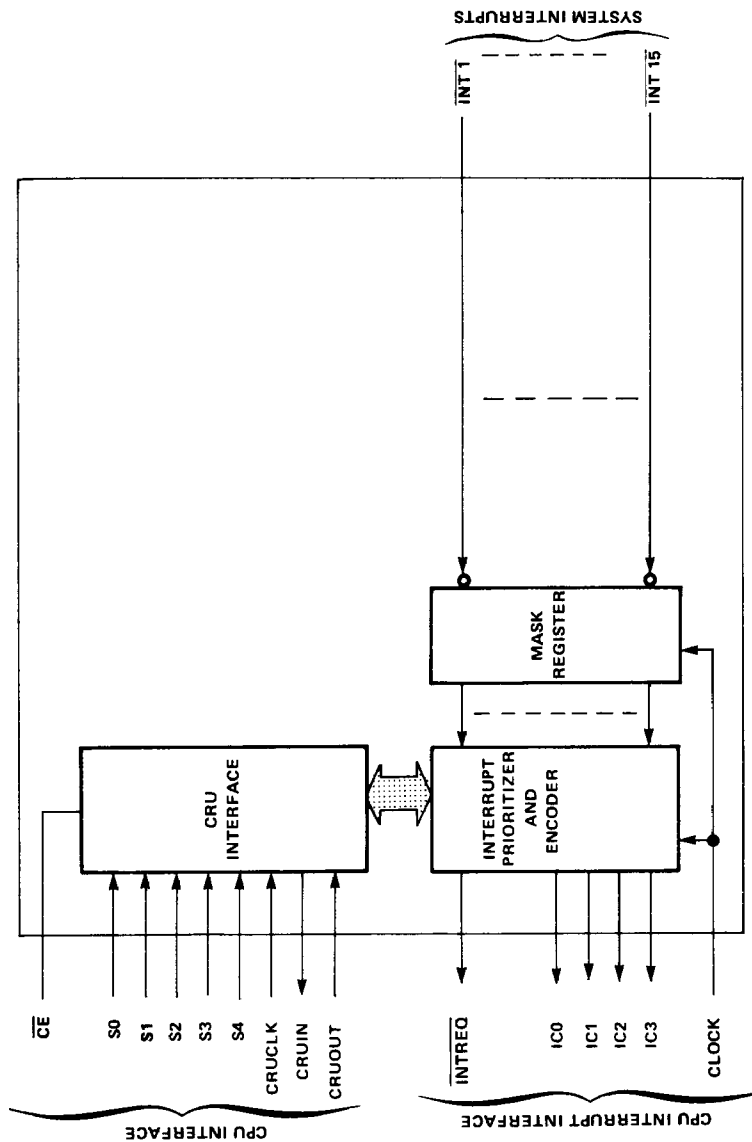

FIGURE 1 – SBP 9961 BLOCK DIAGRAM
The SBP 9961 communicates with the CPU through the Communications Register Unit (CRU) interface as shown in Figures 1 and 3. The SBP 9961's CRU interface consists of: a) five CRU address select lines (S0-S4) b) a single chip enable (CE), c) a 9961-to-CPU serial data-bit line (CRUIN), d) a CPU-to-9961 serial data-bit line (CRUOUT), and e) a CPU-to-9961 serial data-bit clock (CRUCLK). When \overline{CE} is activated (logic-level low), S0-S4 selects a specific CRU bit function as indicated in Table 1. In the case of a SBP 9961 write operation, the datum is transferred from the CPU to the SBP 9961 via the CRUOUT line. The CRUOUT datum is strobed into the selected 9961 CRU bit function by CRUCLK. In the case of a SBP 9961 read operation, the selected CRU bit function is sampled by the CPU via the CRUIN line.